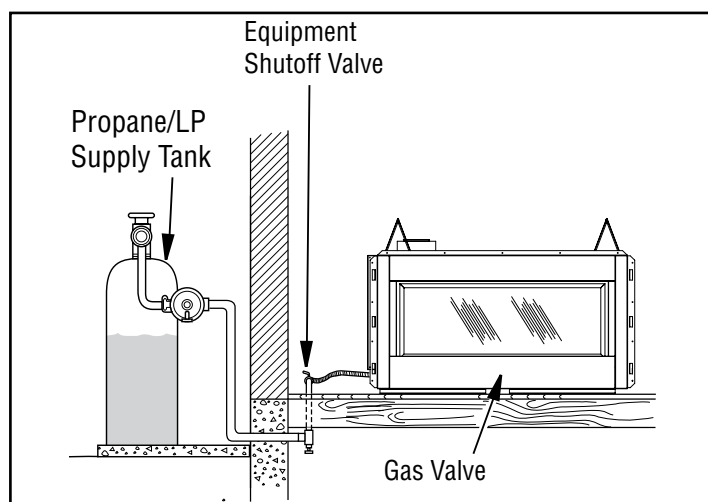
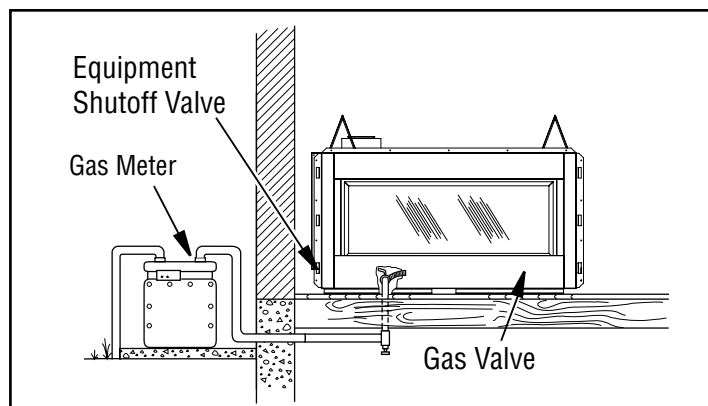

Figure 31 - Checking Gas Joints for Propane/LP Gas Fireplace
Figure 32 - Checking Gas Joints for Natural Gas Fireplace
3. Check all joints from propane/LP supply tank or gas meter to equipment shutoff valve (see **Figure 31** or **Figure 32**). Apply noncorrosive leak detection fluid to all joints. Bubbles forming show a leak.
4. Check all joints from equipment shutoff valve to gas valve (see **Figure 31** or **Figure 32**). Apply noncorrosive leak detection fluid to all joints. Bubbles forming show a leak. Correct all leaks at once.